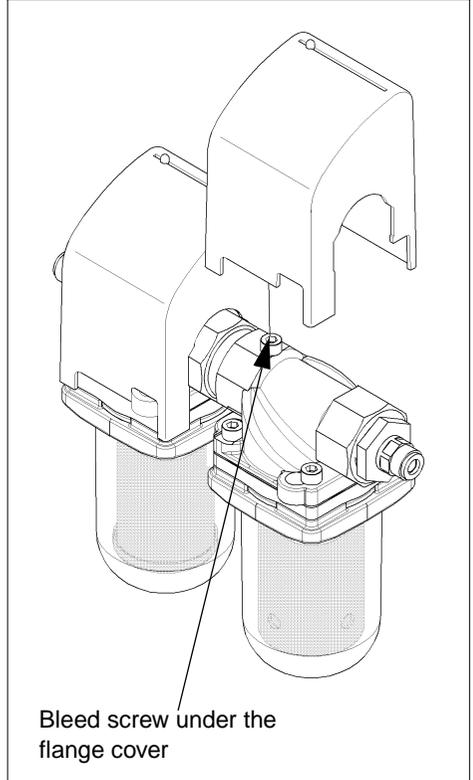

Fig. 7: Bleed screw
Open carefully the cold water line and the spigot (1) so that the air can escape from the system. The microfiltration module must also be vented via the bleed screw. The bleed screw must be slightly unscrewed so that the air can escape. Retighten the bleed screw (see Fig.7).